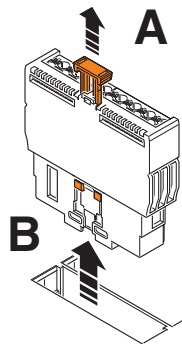

Figure 6-3 Removing the Smart Element from its slot
- To remove the Smart Element from its slot, pull the release mechanism vertically upwards (Figure 6-3, A).
- Pull the Smart Element out of its slot (Figure 6-3, B).